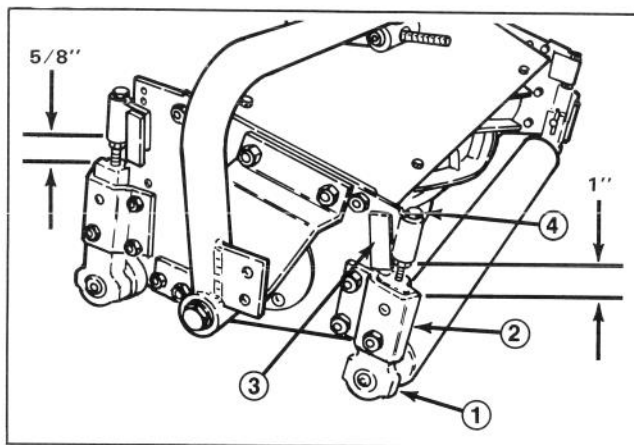

Figure 6
LEVEL REAR ROLLER (Fig. 6)
2. Slightly loosen (crack) nut securing each roller bracket to angle bracket (Fig. 6).
3. Adjust support cap screw to achieve 1" $\pm$ 1/16 dimension between Height-of-Cut support and *front* roller bracket (2 places) (Fig. 6).
4. Adjust support cap screw to achieve 5/8" $\pm$ 1/16 dimension between Height-of-Cut support and *rear* roller bracket (2 places) (Fig. 6).